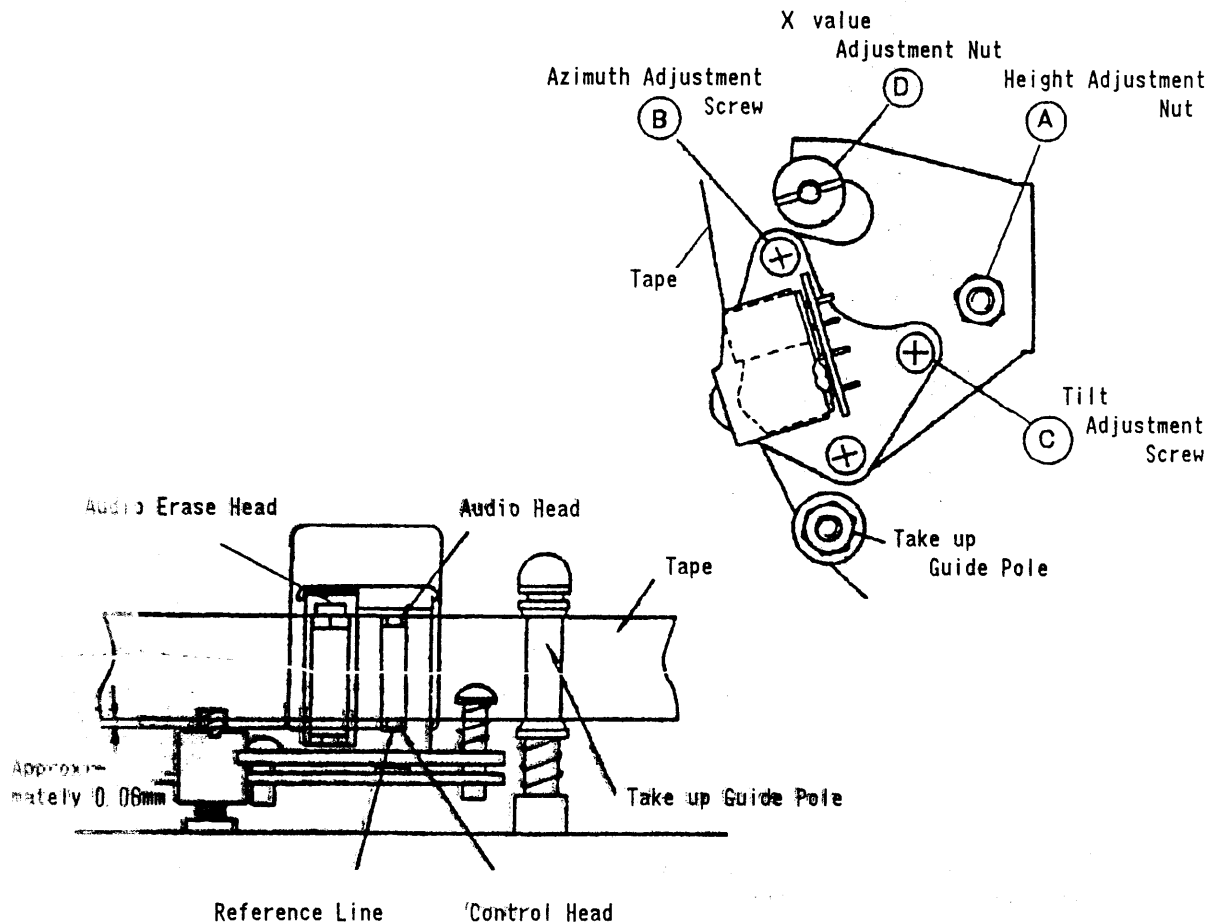

Fig. 2-7
2. Adjust the height of the edge of the audio track on the audio control head by using the height adjustment nut (A) and the tilt adjustment screw (C) so that the tape transport is smooth at the take-up guide pole. Align the audio control head height. (Refer to Fig. 2-7.)
2. Confirm that the tape running between the take-up guide roller and the audio control erase head has no slack. If the tape has slack, take it up by turning the tilt adjustment screw Ⓒ. (Refer to Fig. 2-7.) Then readjust GUIDE ROLLER HEIGHT in section 2-2 and the X value in section 2-4.
3. After confirming on the oscilloscope that a 1 kHz audio signal is being output by playing back F6-A test tape, adjust the height adjustment nut Ⓐ so that the AC voltmeter's reading is brought to its maximum level. (Refer to Fig. 2-7.)
4. Adjust the azimuth adjustment screw Ⓑ so that the AC voltmeter's reading is brought to its maximum level. (Refer to Fig. 2-7.)
1. After confirming on the oscilloscope that an audio signal is being output by playing back F6-N test tape, adjust the azimuth adjustment screw ⑥ so that the AC voltmeter's reading or oscilloscope waveform is brought to its maximum level (Refer to Fig. 2-7).
Note: Fix the screw ⑥ with lock paint after readjustment (Refer to Fig. 2-7).